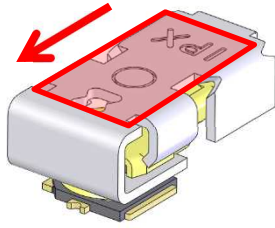

Fig. 8
- ① Set a finger on the surface indicated in a red box in fig. 8 and slide the locking function to the direction indicated in red arrow.